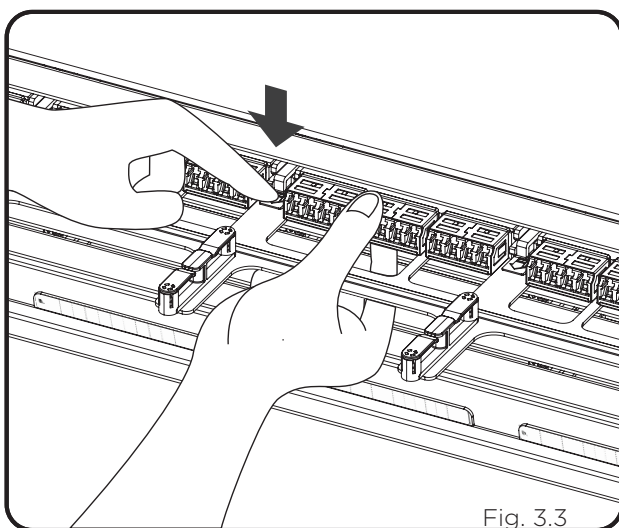

Fig. 3.3
- 2.7. Secure the 2U UHD Chassis in the rack/cabinet using a minimum of eight (maximum of 12) rack/cabinet screws, having equal numbers of screws installed in the rack mounting brackets, in the same hole pattern on each side of the chassis. (Fig. 3.3)
- 3.7. A Cassette Module can be removed if necessary by pressing down the Cassette Removal Lever and pulling the Cassette Module out of the Sliding Tray. (Fig 3.3)